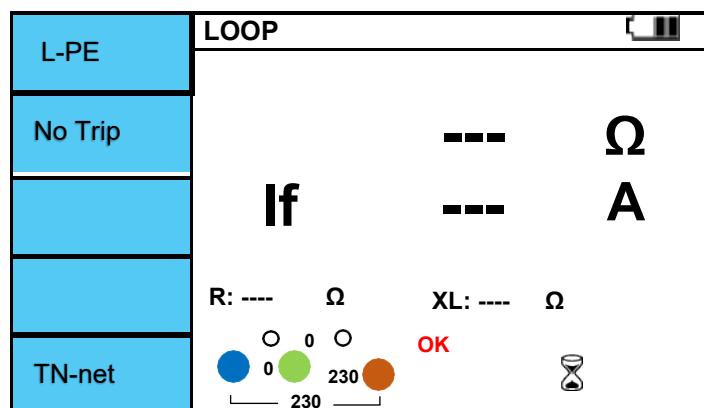

Figure 6.5.2 Loop / No Trip screen.
- If there is no problem with the test lead connection, the terminal status is displayed as shown in Figure 6.5.2. "OK" is displayed in the right window.